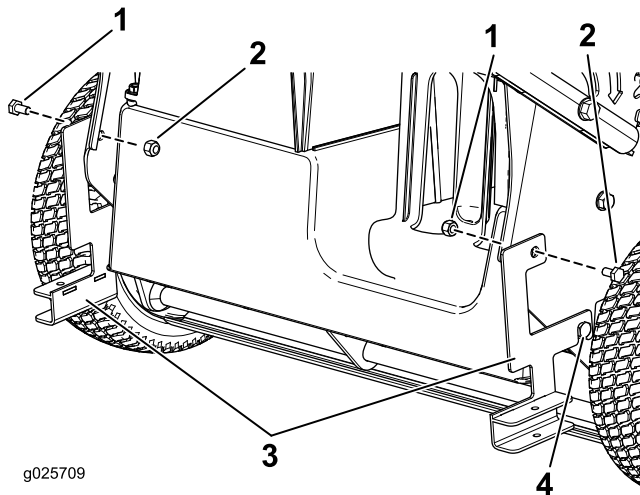

Figure 1
1. Loosen the bolt near the right rear wheel (Figure 1).
2. Attach the right-hand bracket to the right side of the mower using a bolt and a nut. Tighten the bolt to 13.5 N-m (10 ft-lbs) (Figure 1).
3. Tighten the bolt you loosened in 1 to 17.6 N-m (13 ft-lbs) (Figure 1).